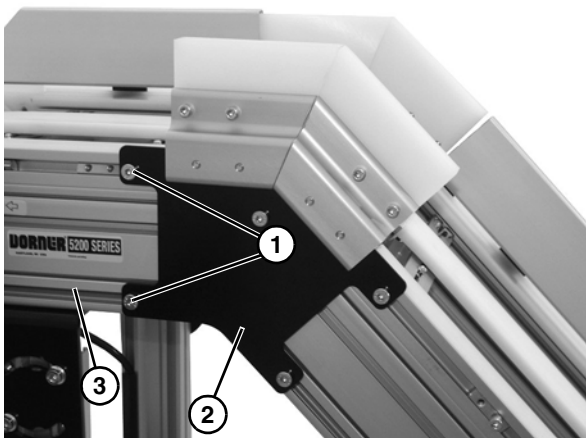

Figure 8
1. Attach upper knuckle to frame by loosening two socket head cap screws (**Figure 8, item 1**) on each side of upper knuckle assembly (**Figure 8, item 2**), and sliding T-Nuts into straight frame section (**Figure 8, item 3**).